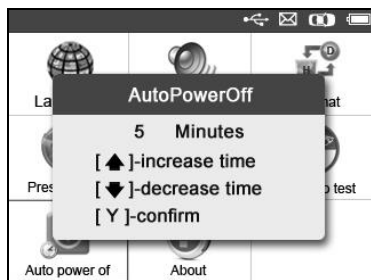

Figure 2.9
- 2) Press **UP/DOWN SCROLL** button to increase or decrease the time to auto power-off the tool, and then press the **Y** button to confirm your change or the **N** button to exit without change. (Figure 2.9)